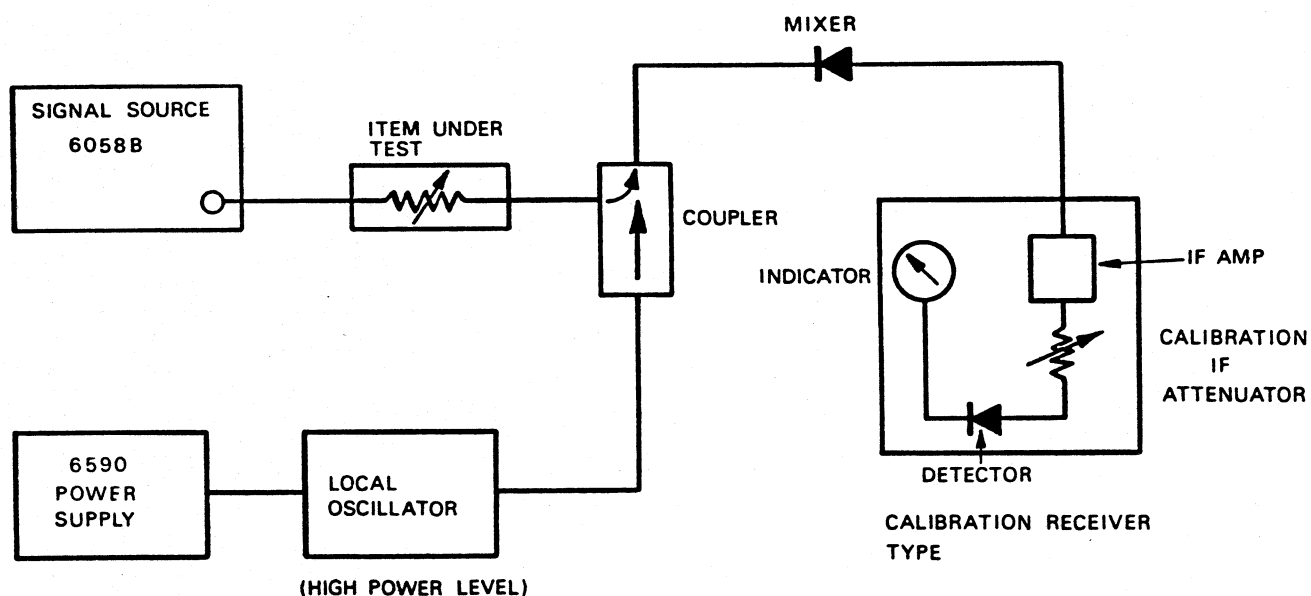

Fig. C1 High Attenuation Measurement
C. Superheterodyne System for High Attenuation Measurement. Using the equipment as shown in Fig.C1 attenuations of 80 dB can be measured. The system requires that the signals from the signal source and the local oscillator be 45 MHz different in frequency. The most reliable method